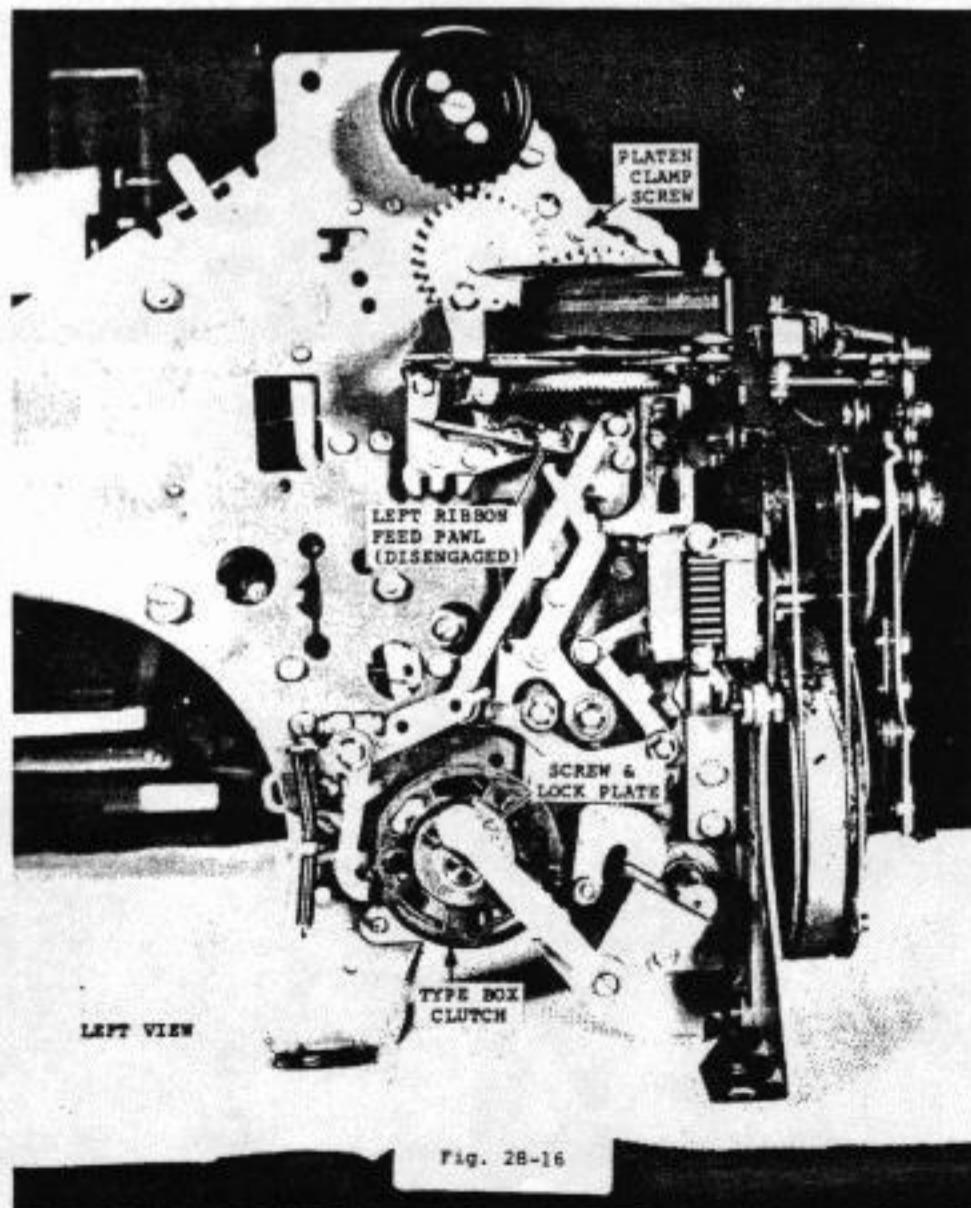

Fig. 28-16
Left side spool (disengaged): Fig. 28-16
2. Remove the other Platen clamp screw (Fig. 28-16 - left view).